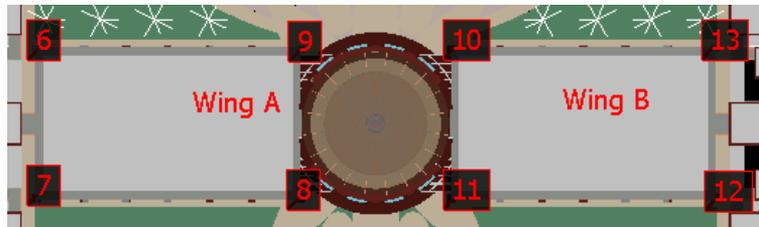

Figure 3-50 Tags created on both the wings
- Repeat the procedure followed in steps 1 to 4 and add tags on both the wings, as shown in Figure 3-50.